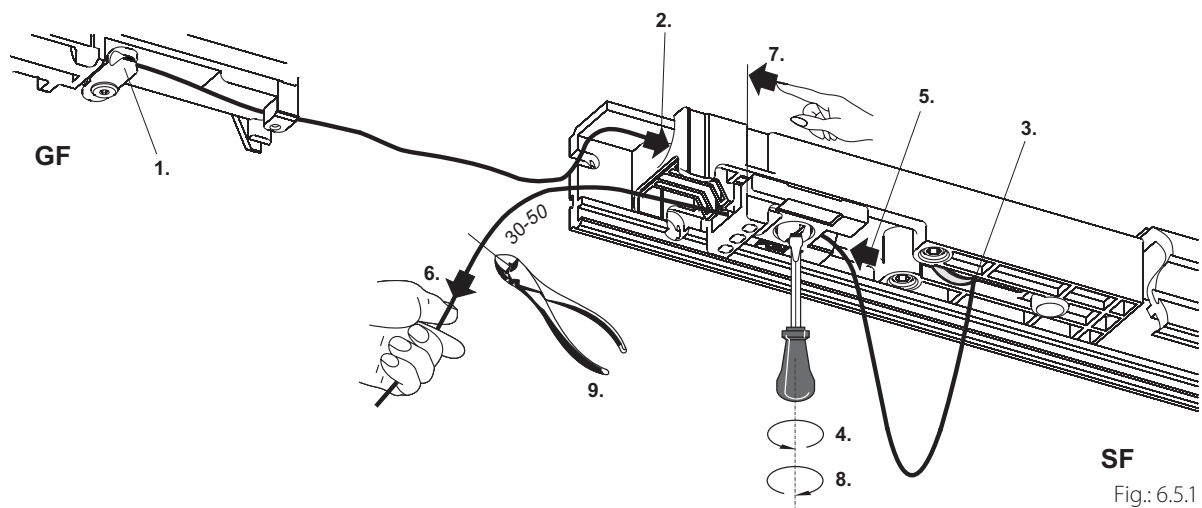

Fig.: 6.5.1
- ▶ Turn driver plate in accordance with fig. 6.5.1 into the correct position (2.), Attach lever and screw down (3.).